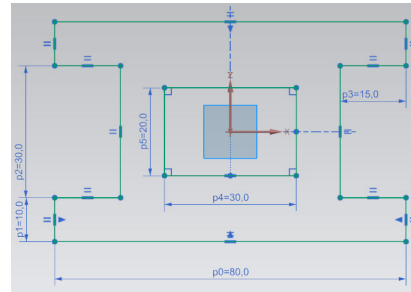

Figure 3-28 The sketch after adding required dimensions and constraints
7. Similarly, click on the vertical dimension of the rectangle and modify the value of the dimension to **20**. Next, press Esc. Next, place the dimension on the left of the sketch, refer to Figure 3-28.